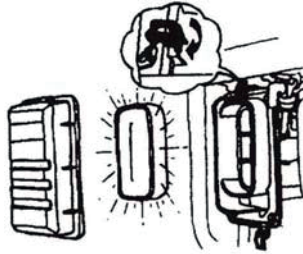

Fig. 19
3.3.4 Put the filter element back to its original place, mount the cover and fasten it securely (Figure 19)